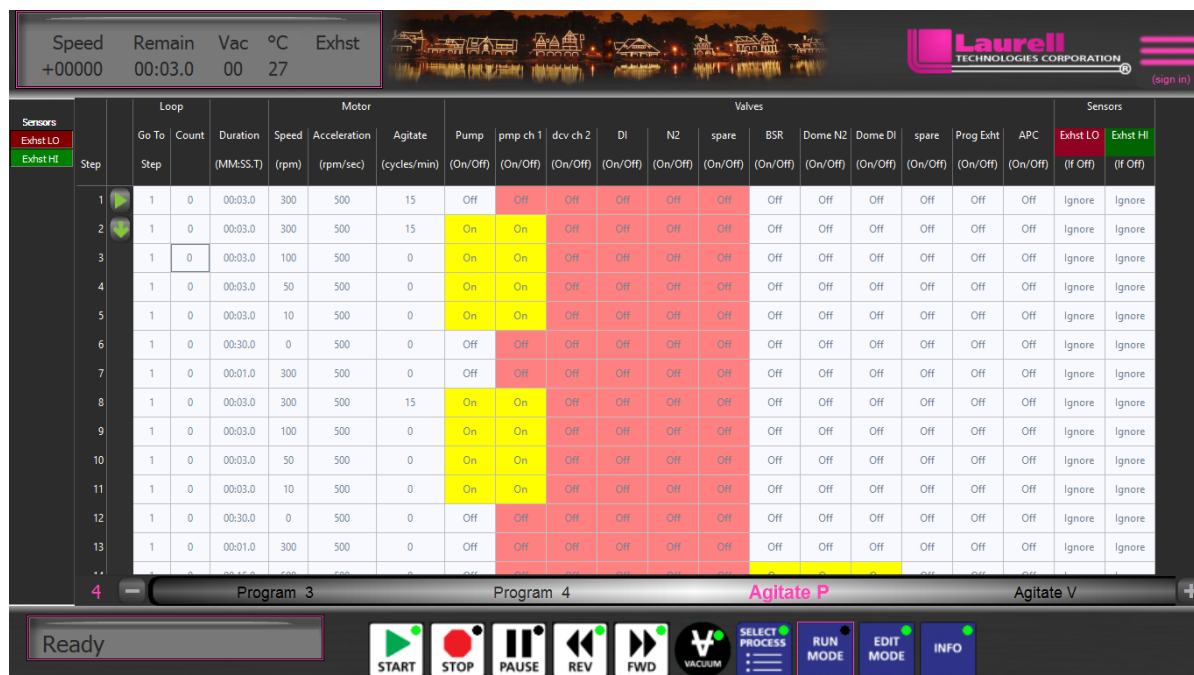

Figure 3-24
All operational controls are interfaced through the spin processor’s Laurell Touch software (LT). There are 4 operation modes available to the user. They are; “Select Process”, “Run”, “Edit” and “Info”. Figure 3-24 is an example of the “Run Mode” screen.